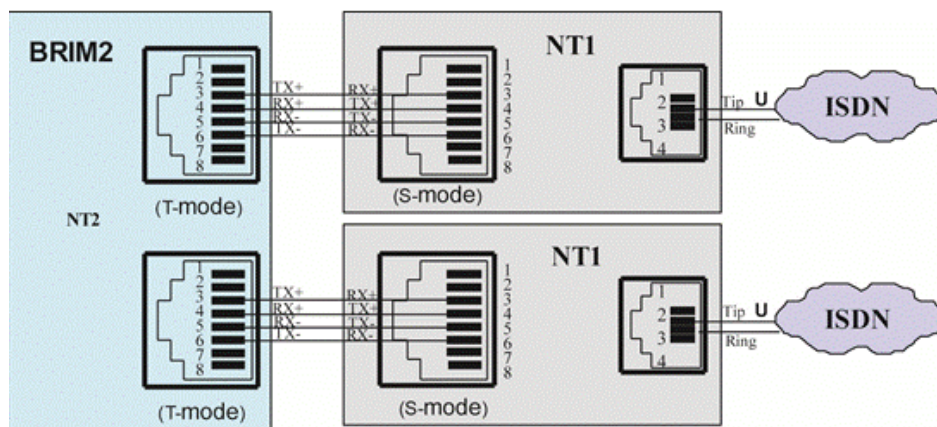
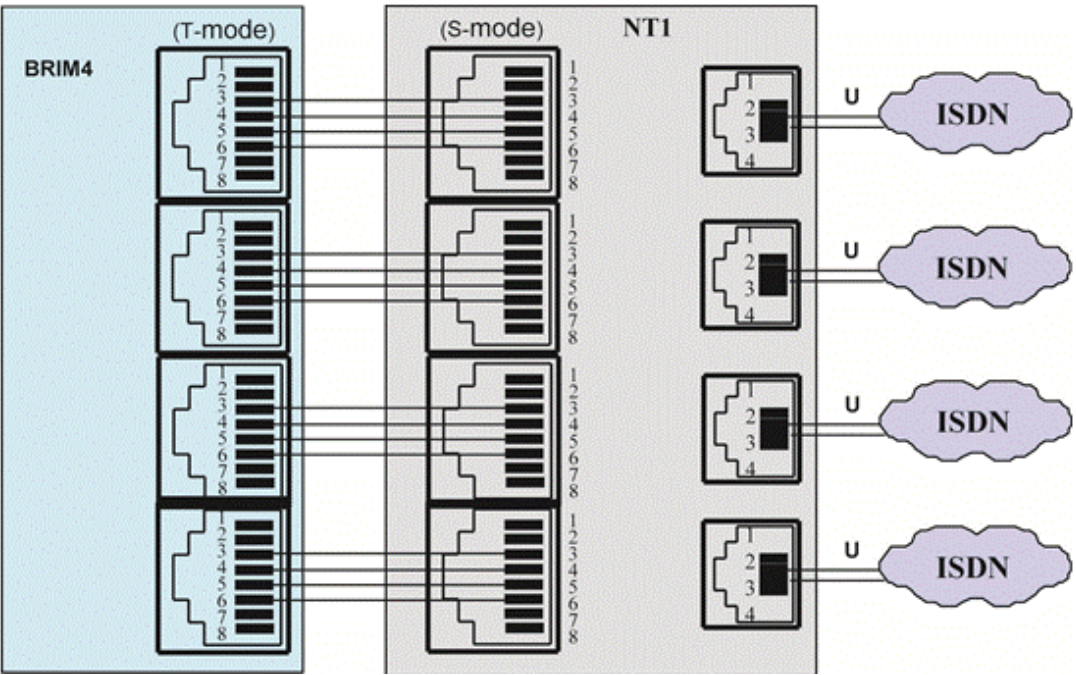

Figure 6.6-1 BRIM2 BRI Line Connector Configuration
Figure 6.6-2 BRIM4 BRI Line Connector Configuration
On the rear are two (2) or four (4) RJ-45 connectors terminated to the BRI Line interface circuits. These connectors should be wired to the telephone company termination point (“T” Mode). The connector pin assignments for the RJ-45 type jacks on the BRIM2 and BRIM4 are shown in Figure 6.6-1 and Figure 6.6-2, respectively.